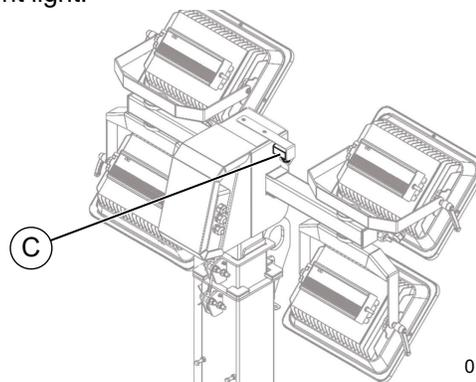

Figure 2-6. Light Sensor
NOTE: See **Figure 2-6**. When using the light sensor setting, verify light sensor (C) is clean and exposed to ambient light.